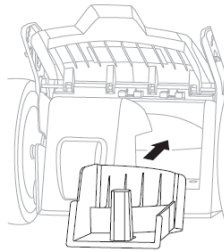
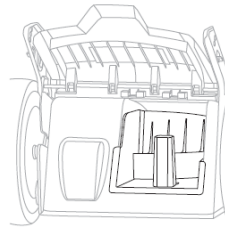

Fig.8B
Fig.8C
2. Push the mulching plug into the deck. Make sure it is securely in place (Fig. 8B/ Fig. 8C)